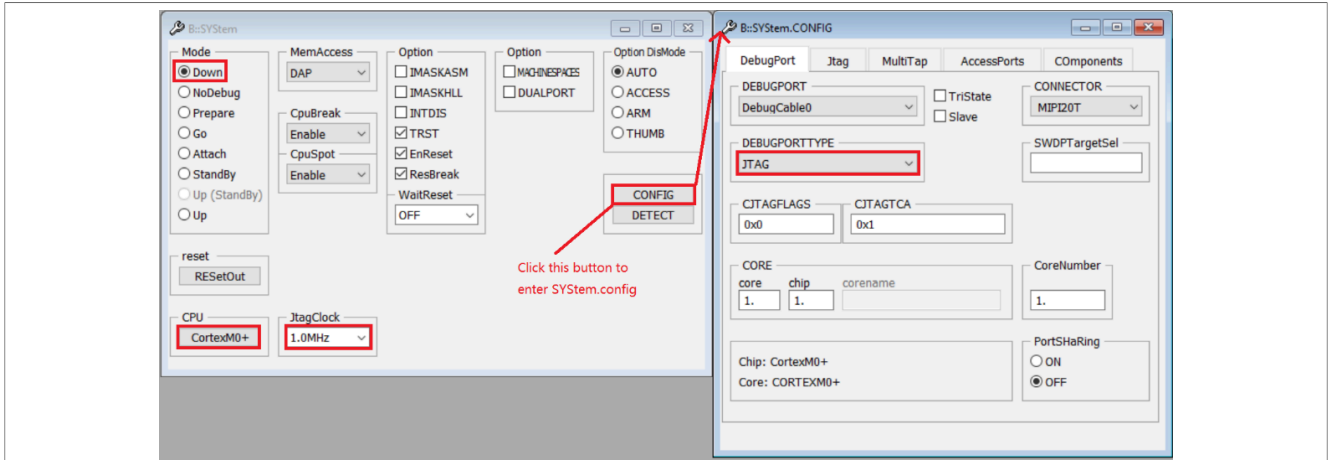

Figure 10. System settings
- Click **CPU -> System Settings...** in the menu bar, and the system setting dialog appears. Perform system settings as shown in Figure 10.